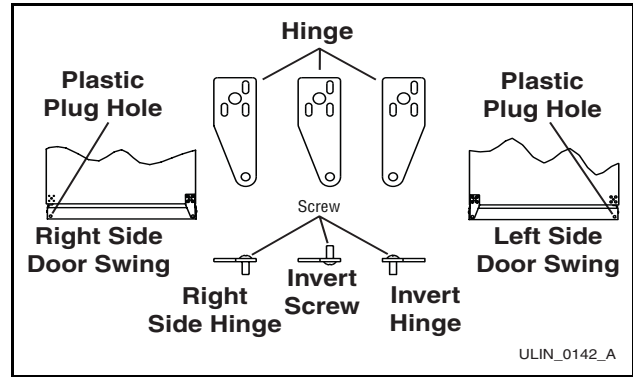

Figure 21
12. Remove pivot screw from top hinge, invert screw and reinstall pivot screw in top hinge (**Figure 21**).